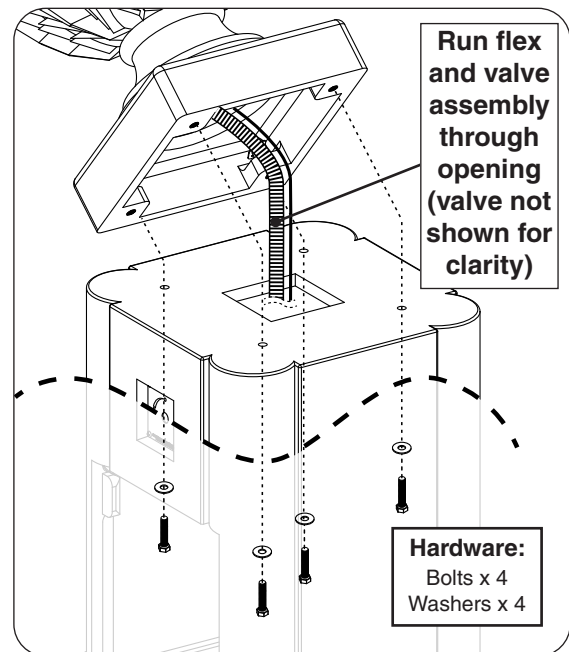

Fig. 19-1 Place urn and secure
- Carefully place the urn assembly on the pedestal base, ensuring that the flex connector and valve assembly (coming from the inside of the urn) clears the center opening and the four screw holes (found underneath the urn assembly) are aligned with the four holes found on top of the pedestal base (see Fig. 19-1).
- Insert the hardware kits in the order shown in Fig. 19-1. Hand tighten, then use a  $\frac{9}{16}$ " open end wrench (or equivalent) to fasten.